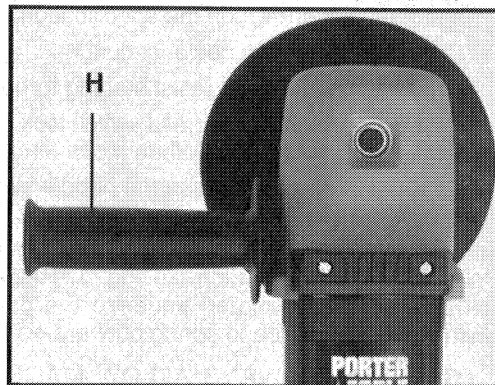

Fig. 3
An auxiliary handle (H), Fig. 3, is furnished with your machine and can be installed on either side or the top of the front housing. This handle **SHOULD BE USED AT ALL TIMES** to maintain complete control of the machine.